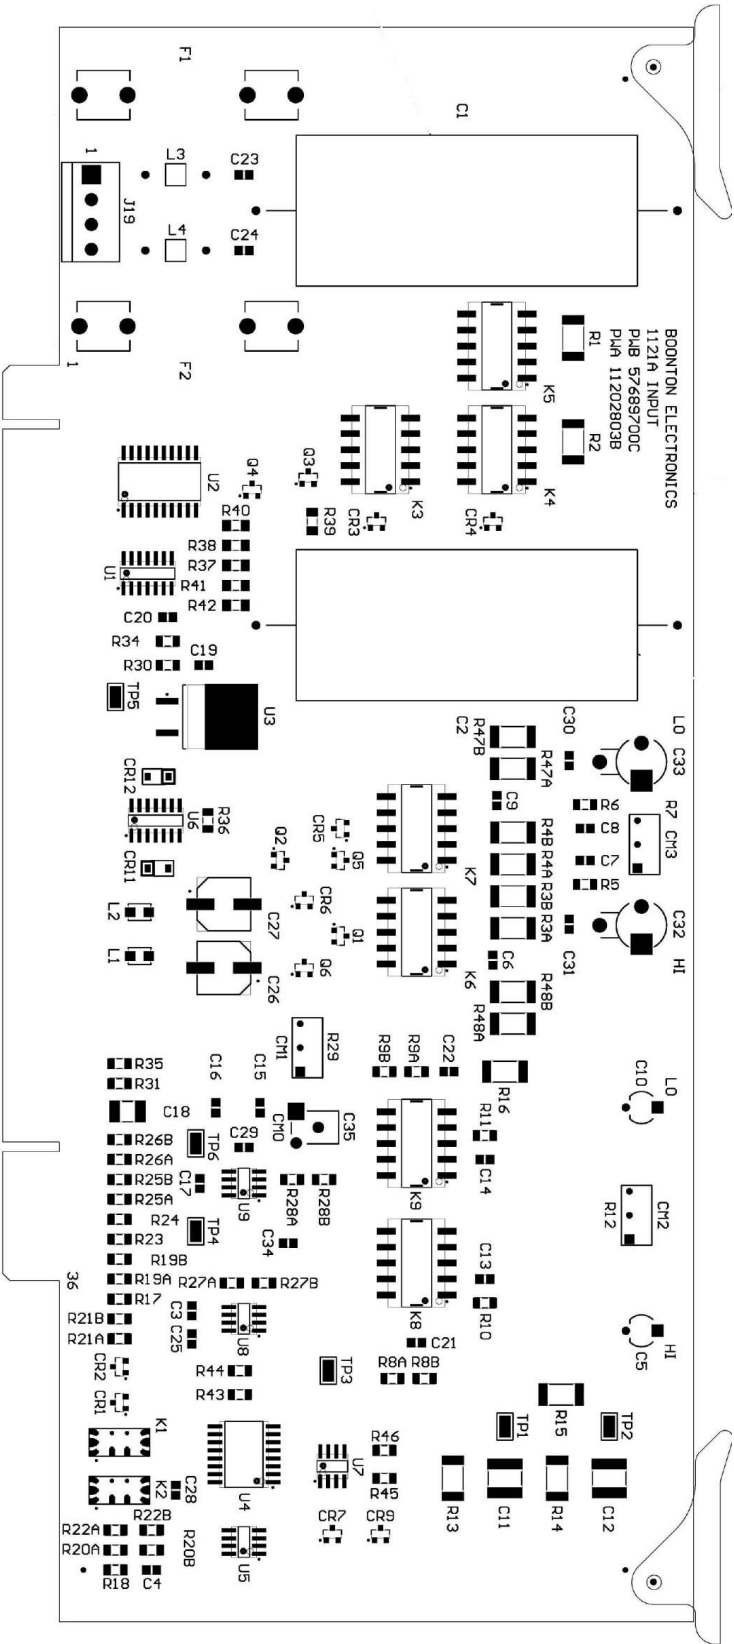

Figure 6-3. PWA '1121A' Input (A0)
**11202803A PWA INPUT 1121A (A0) (Figure 6-3)**